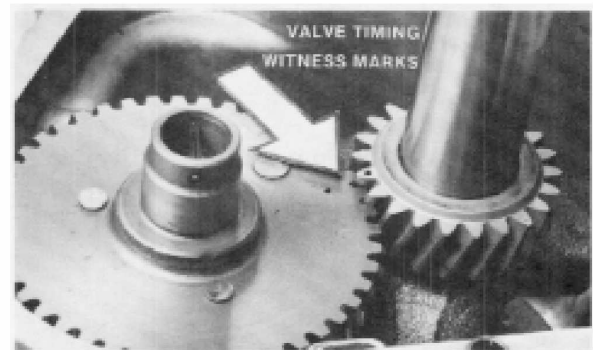

Figure 4-24
2. The witness marks on the cam gear and crank gear can be seen in Fig. 4-24. These marks must be matched to establish correct valve timing.